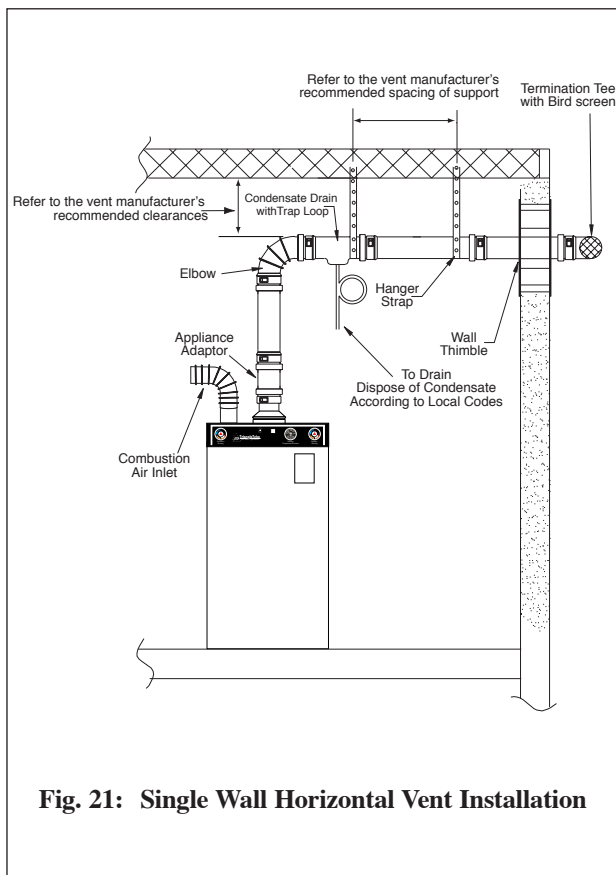

Fig. 21: Single Wall Horizontal Vent Installation
- a. The vent system must contain a condensate trap located near the unit as shown in Fig. 21 page 36.